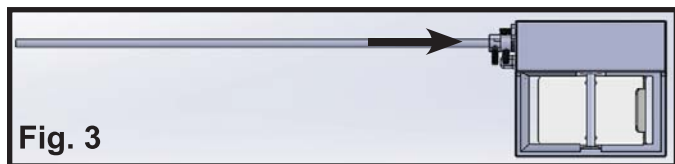

Fig. 3
3. Install thermostat rod extension by aligning machined faces and securing with the set collar. Use supplied allen key. (**Fig. 3,4,5**) **NOTE: CONNECTION MUST BE SNUG**